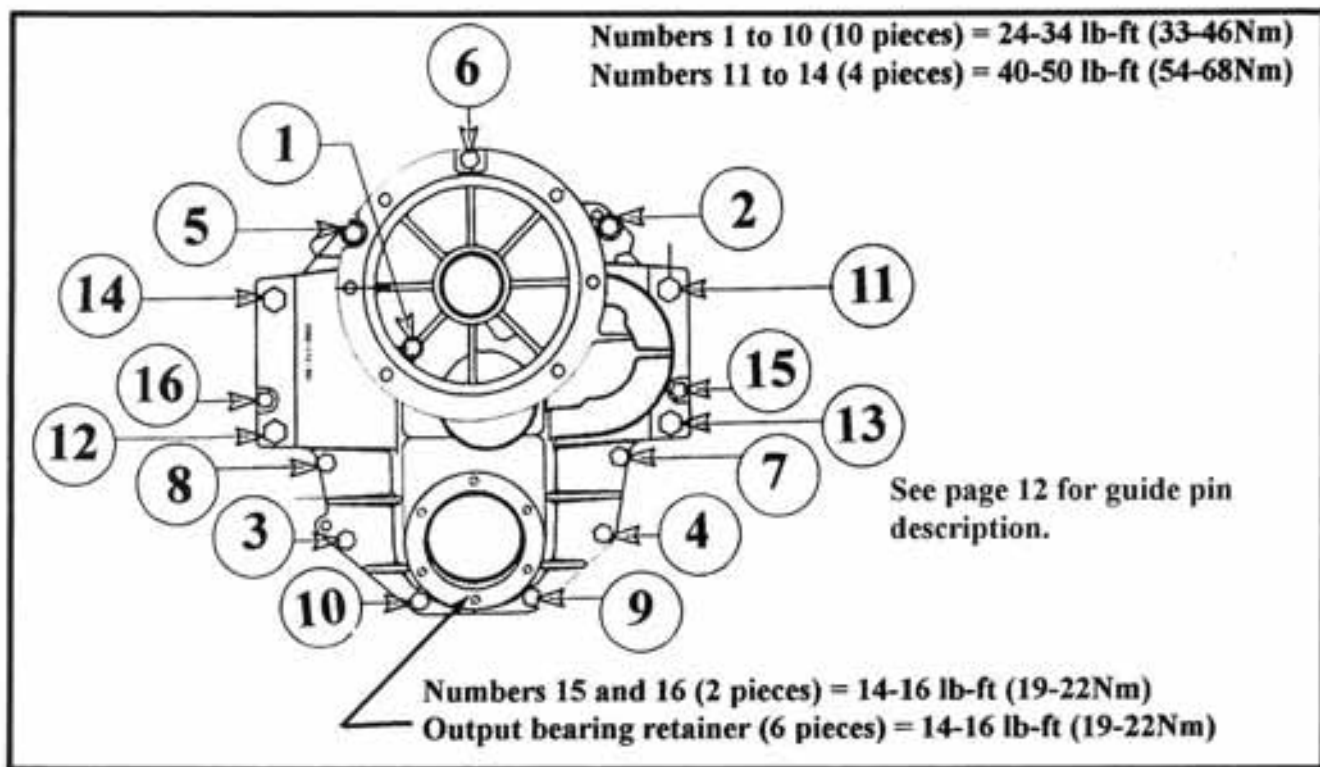

Figure 1-7. Torque sequence and specifications
18. Place cover (129) on gasket and install guide pins into the two (2) roll pin (123) locations. See figure 1-7.
19. Install bolts (124, 125, 127 & 128) and washers (126) finger tight only. Use RTV sealer on bolt (127).
20. Remove guide pins and install roll pins (123) through cover (129) and case (160).
21. Tighten bolts as described in figure 1-7.